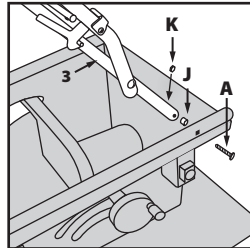

Fig. 6
- Attach component **4** in its service position on the machine. See that the position of the latching lever and pin is on the same side as the rise and fall/bevel adjustment hand wheel. (**Fig. 6**).